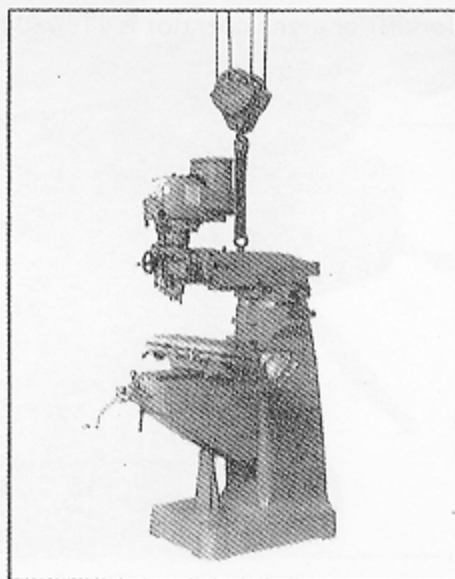
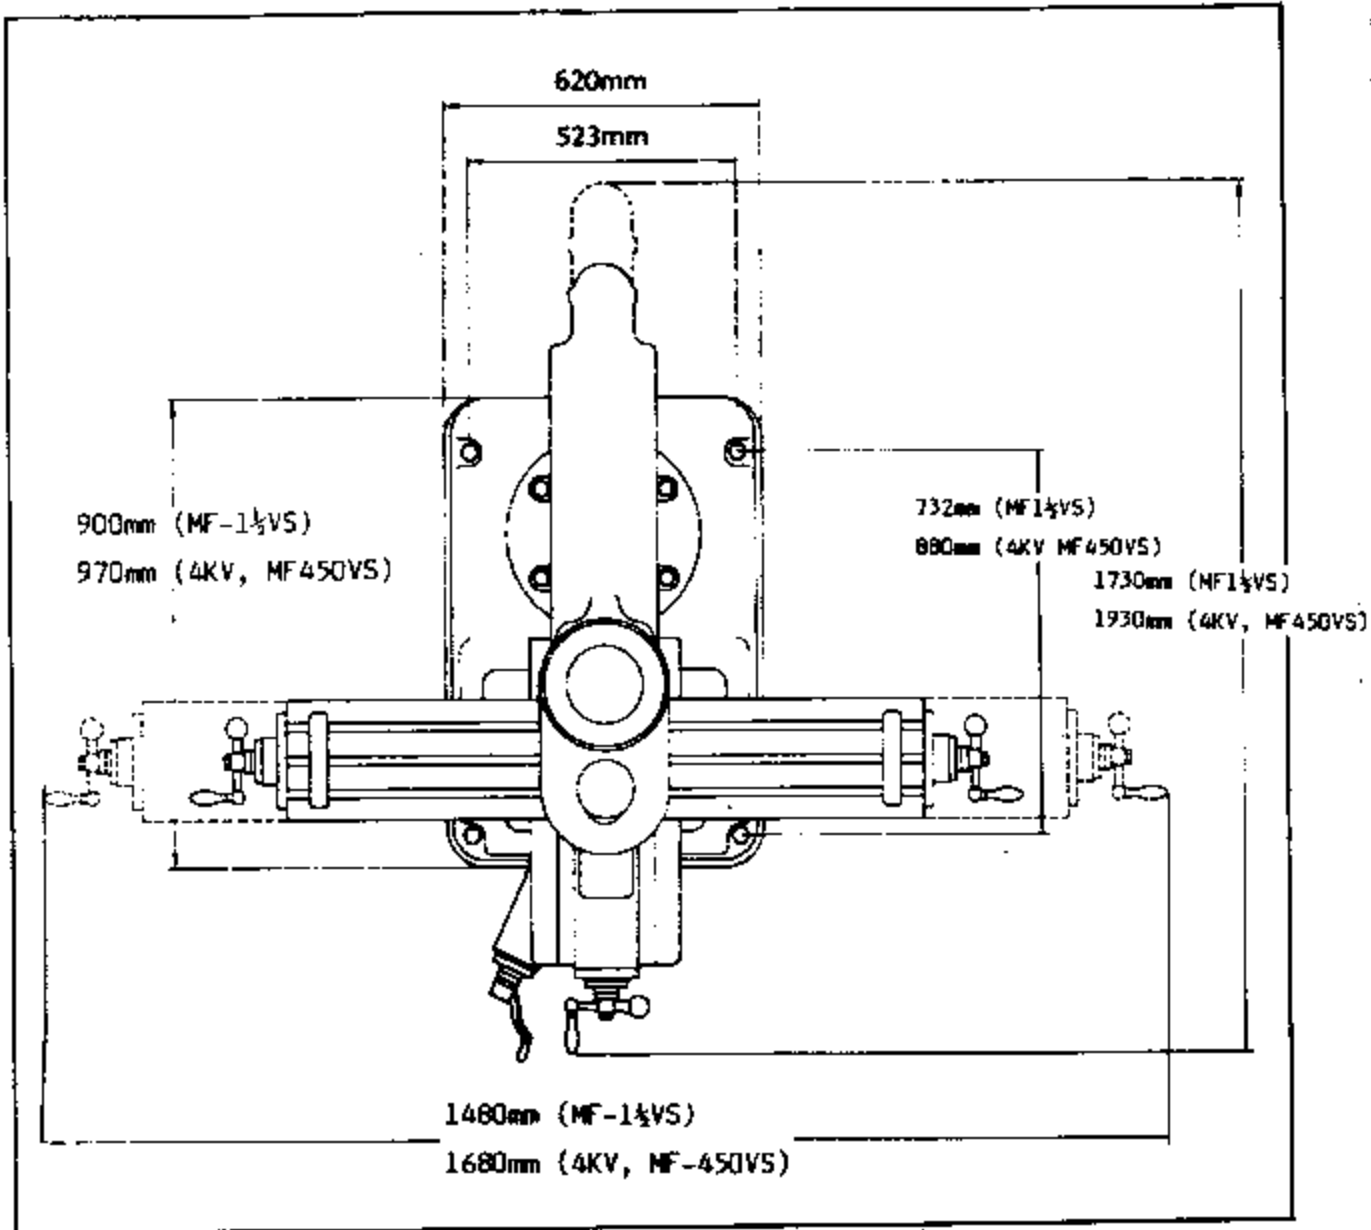

Figure 21
Figure 22
- (2) After packing, transport may be made by hoisting with a reinforced cable (Figure 21) and the eye bolt (Figure 22).